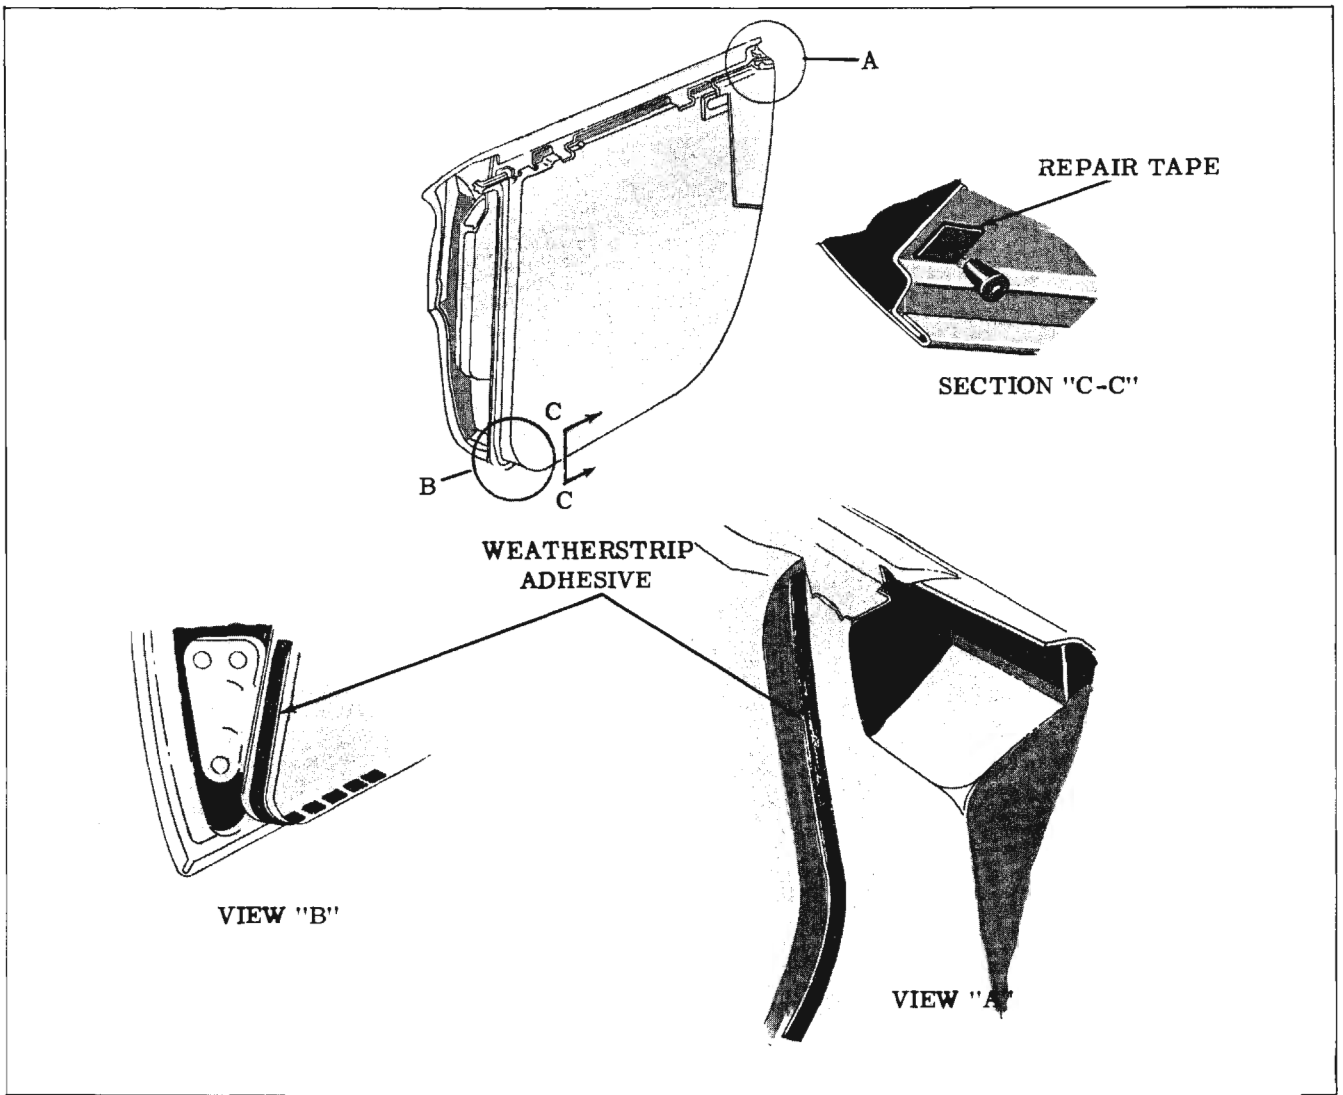

Fig. 16-38 Weatherstrip Adhesive Application (29 Style Shown-39 Style Typical)
3. Carefully break cement bond securing weatherstrip to door. A putty knife will prove helpful in breaking cement bond. (Fig. 16-38)
sealing plug must be replaced. (Section "D-D", Fig. 16-38)
3. Clean off old cement from door to insure a clean cementing surface. Apply a bead of weatherstrip adhesive to lock pillar facing of door and at lower front corner of door. (View "B" and "C", Fig. 16-38).